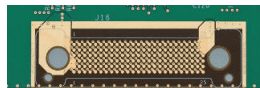
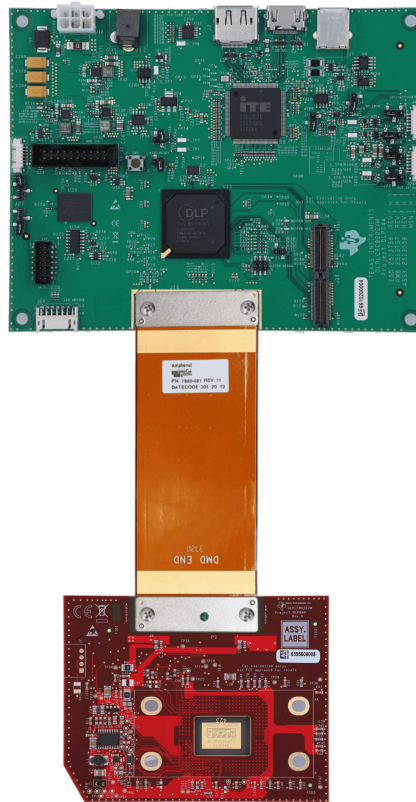

Figure 4-8. DLPLCR900EVM Flex Cable Pad
Figure 4-9. Assembled DLPLCR900EVM with DLPLCR65EVM
- The flex cable provided with the DMD EVM has one end marked *DMD End* with key pins arranged diagonally that only fit one way onto the DMD board preventing attachment to the wrong side of the board. Place the insulated backer plate on the other side of the DMD board from the flex side with connection pins and carefully tighten the screws. Alternate tightening the screws from side to side until the screws are firm, but not overtightened (SCREW TORQUE REQUIREMENT: 6-8 in-lb [0.7-0.9 N·m]). Figure 4-9 shows the flex cable DMD ends correctly assembled to an example DMD board.
- The other end of the flex cable attaches to the single DLPC900 controller board. The key pins are arranged laterally symmetric and are able to be inserted from either side of the controller board. To verify the cables are connected to the correct side of the single DLPC900 controller board, check that the connection flex pins are facing the pads shown in Figure 4-8. Place the insulated backer plate on the other side of the controller board from the flex side with pins and carefully tighten the screws. Alternate tightening the screws from side to side until the screws are firm, but not overtightened (SCREW TORQUE REQUIREMENT: 6-8 IN*LB [0.7-0.9 N*m]). Figure 4-9 shows the flex cable ends correctly assembled to the single DLPC900 controller board.